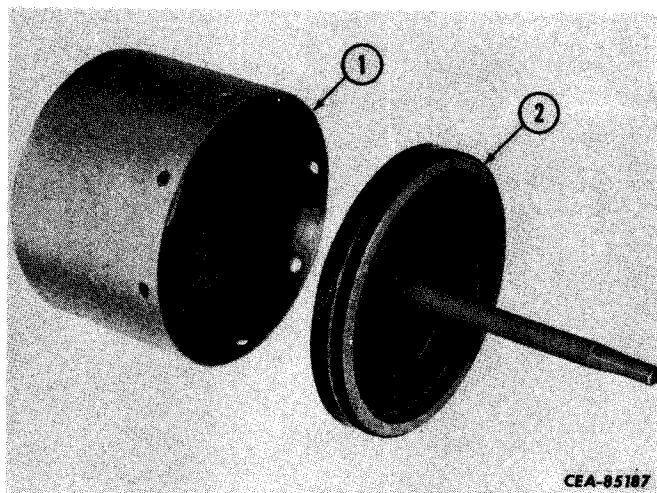

Figure 13-33
Slide piston and rod assembly (2, Fig. 13-33) out of shell (1).
Insert piston and rod assembly (2, Fig. 13-33) into shell (1).